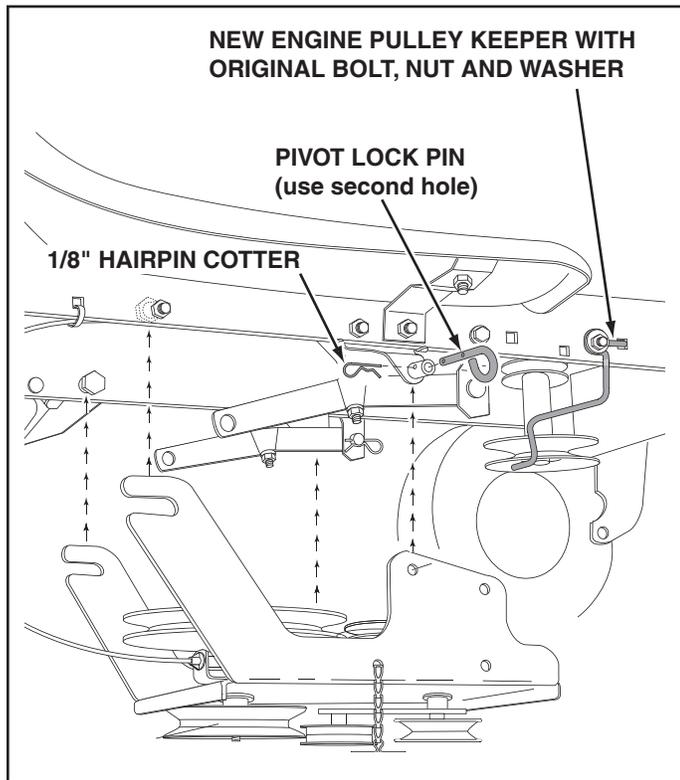

**FIGURE 16**
- Attach the tractor's clutch cable to the cable bracket. Secure the cable housing guide (groove down) to the cable bracket using the original collar and retainer spring removed from the mower deck. See figure 16.
- Place a spacer on the welded pin on the idler arm. Hook the end of the clutch spring over the pin and secure it with a 1/4" washer and a 5/64" hair cotter pin. See figure 16.